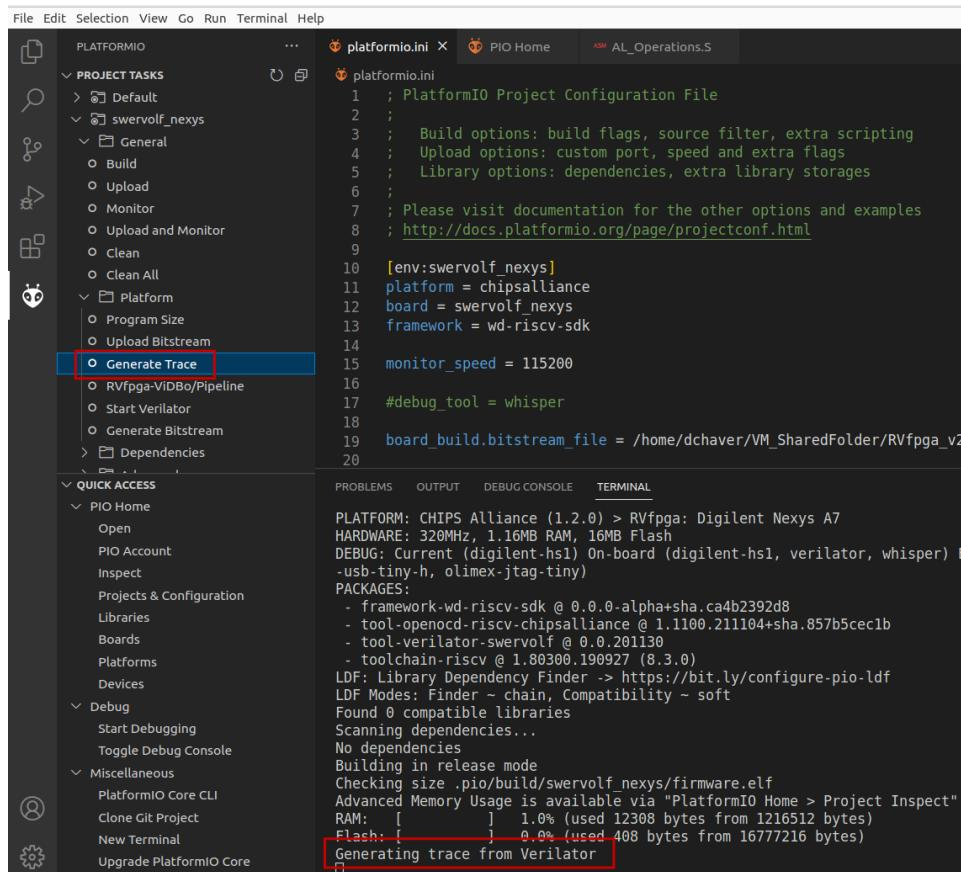

Figure 114. Generating Trace from Verilator
- c. Then expand *PROJECT TASKS* > *env:swervolf_nexys* > *Platform* and click on **Generate Trace** (see Figure 114). This first compiles the program and then launches the Verilator simulation of the RVfpga SoC running this program.